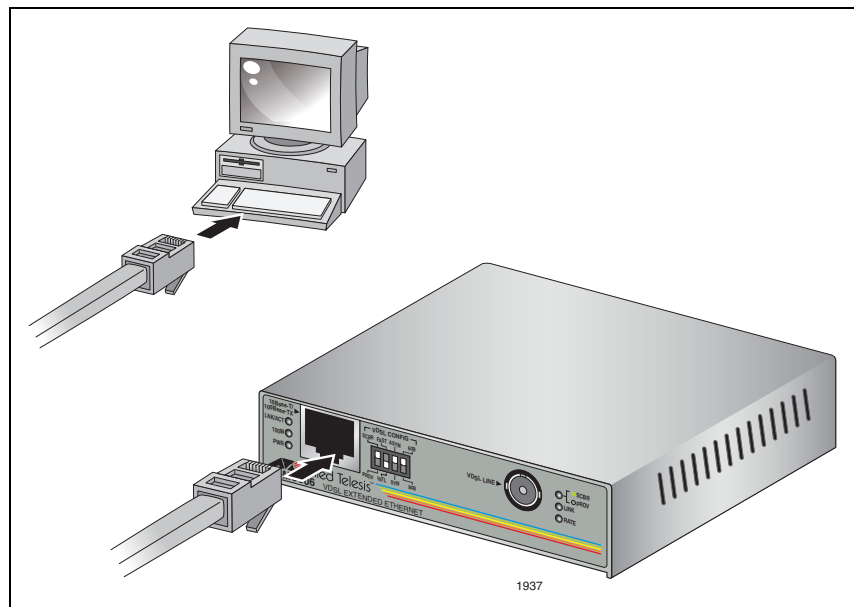

Figure 9. Connecting AT-MC606 Ethernet Port to Computer
1. Connect the Ethernet cable from the AT-MC606 Ethernet port to the Ethernet port on your computer, as shown in Figure 9.